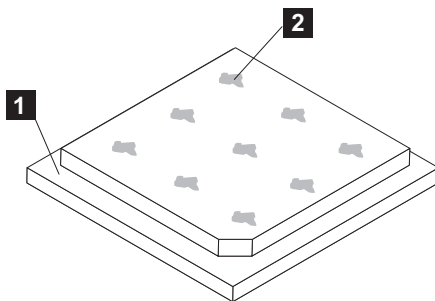

Figure 261. Applying thermal grease to the SAN Volume Controller 2145-CG8 or 2145-CF8 microprocessor
- e. Use the thermal-grease syringe to place 9 uniformly spaced dots of 0.02 mL each on the top of the microprocessor, as shown in Figure 261. The outermost dots must be within approximately 5 mm of the edge of the microprocessor to ensure uniform distribution of the grease.